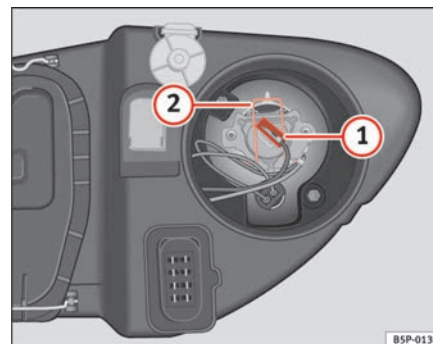

Fig. 163 Main beam headlights
- Remove the connector ⇒ fig. 163 ② from the bulb.
- Press the spring ⇒ fig. 163 ③ inwards and to the right.